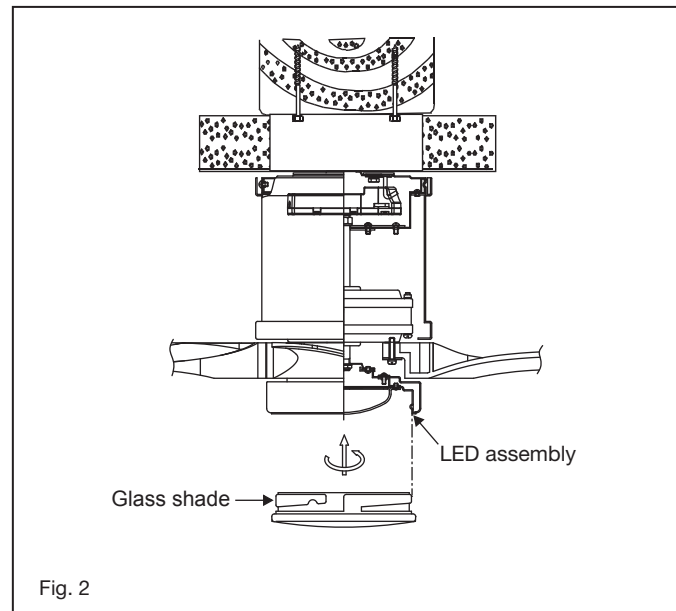

Fig. 2
- 2 Raise up decorative ring and line up the 4 slots on the fan motor with the 4 tabs on the decorative ring. Once lined up, slide the decorative ring and secure it to the top of the fan motor until snug. (Fig. 2)
- 2 While holding the LED assembly under your fan, make the polarize plug connections: (Fig. 2)